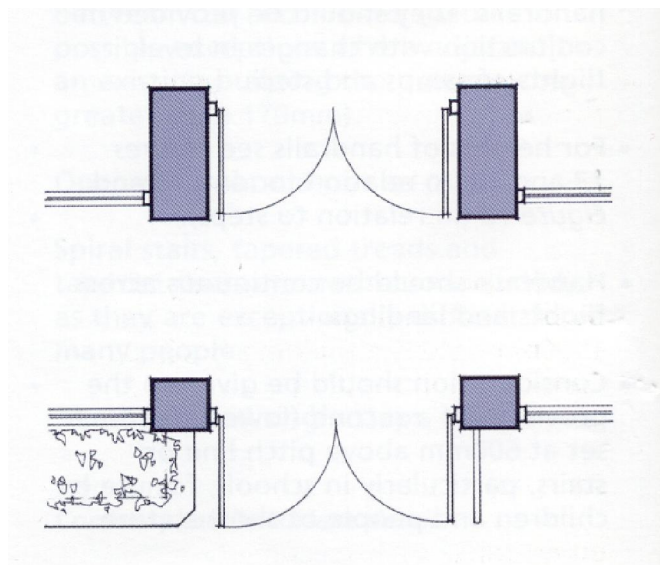

Figure 20
- Outward opening doors should be protected or recessed (Figure 20).